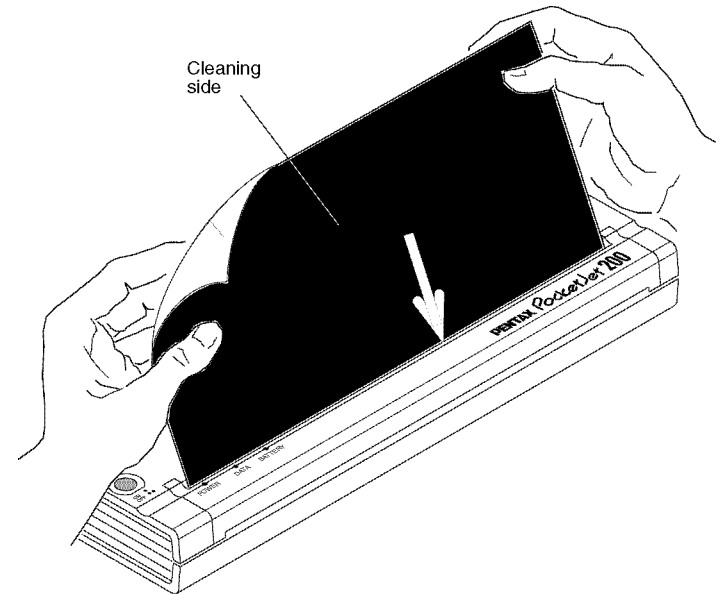

FIGURE 19. Cleaning the platen roller.
4. Insert the black cleaning cloth that came with the printer into the printer's paper input slot with the rough black side, which contains the cleaning material, towards the front of the printer. The printer pulls the Cleaning Cloth through. See Figure 19.